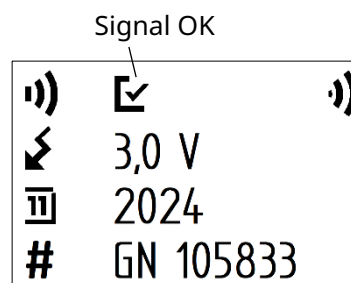

Figure 21: Measurement Screen example (Novega) with Signal OK-symbol
- The Signal OK-symbol  appears after the Ulyser has received three pulses (Figure 21). Please note the pulse repetition rate of the ULD/LF-ULD.